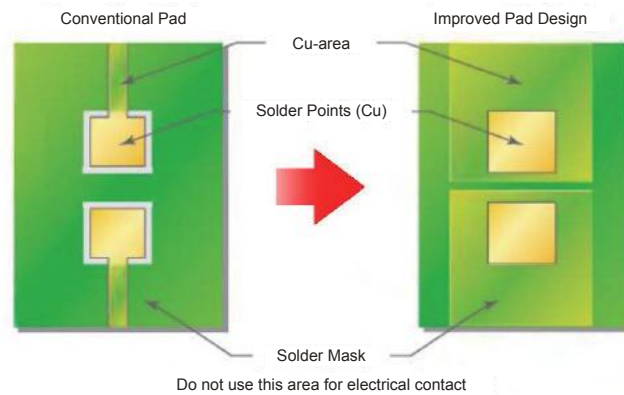

Fig. 11
7. High-power LED devices require optimization of heat dissipation. Increasing the size of metal mounting surface and proper application of thermal conductive paste will help improve heat dissipation. Refer to below diagram (Fig.11) and product datasheets for specific design recommendations.